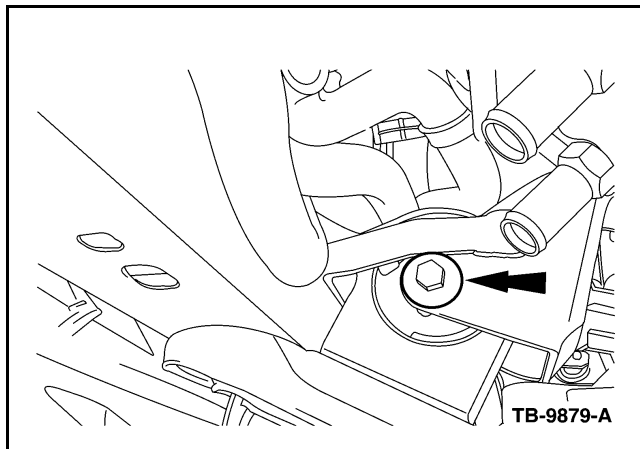

Figure 1 - Article 09-22-19
2. Remove the lower transaxle insulator through bolt. (Figure 1)
7. Install the lower transaxle insulator through bolt. Tighten to 85 lb-ft. (115 N•m). (Figure 1)